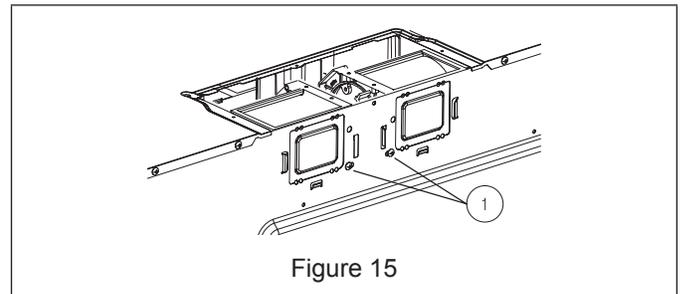

Figure 15
- Secure the Blower Motor Cover to the microwave oven with the screw (1, 2 and 3) from step 1 and 2. See Figure 15.